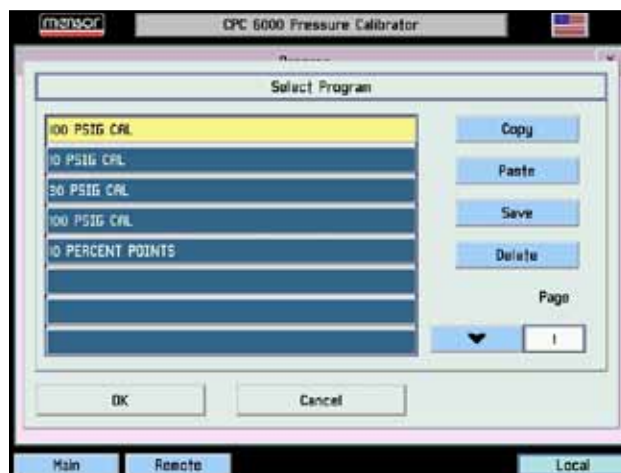

Figure 6.4B - Program Selection Screen
The large key at the top of this screen contains the program name of the currently active program that can be run or edited. If this key is pressed, a list of saved programs will be displayed as shown in Figure 6.4B. The up and down arrow keys display additional pages of programs. To select a program to run or edit, simply press the name of the program.
**[Program]** (mode selection): This mode will allow the user to define and run user entered program sequences (Figure 6.4B).